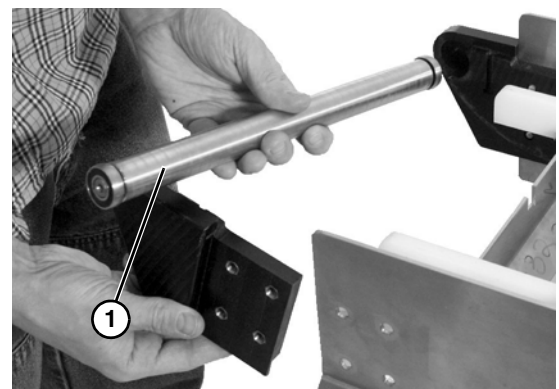

Figure 54
6. Slide off idler roller bearing assembly (**Figure 54, item 1**).